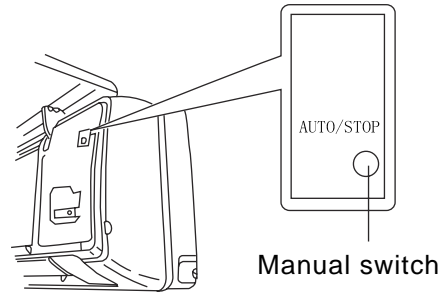

Fig.9 – 11
2. Let the piping and cord pass through the piping hole after tired up. (As shown in the following figure 9--5).